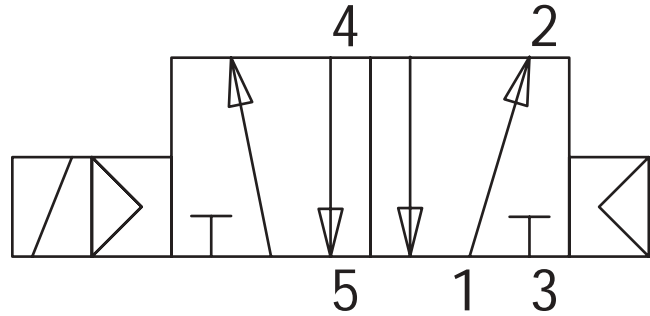
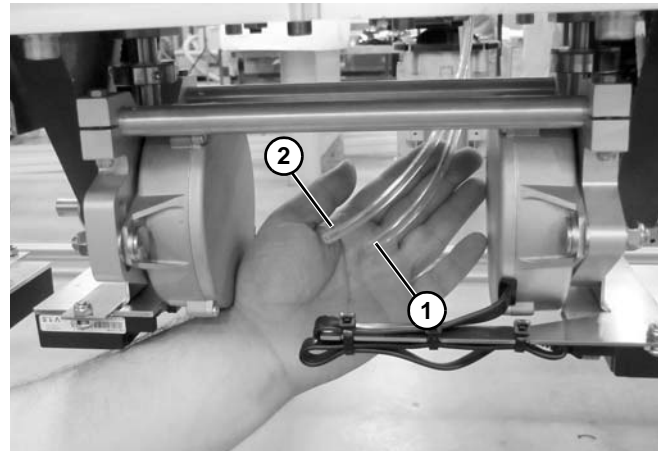

Figure 39
Figure 40
Dorner recommends using a 5 port, 2 way, solenoid valve (Figure 39) to operate unit.
1. Connect port 4 (Figure 39) of the 5 port, 2 way valve to the lower port (Figure 40, item 1) on the lift. Dorner fittings accept 1/4" outside diameter tubing standard.
2. Connect port 2 (Figure 39) of the 5 port, 2 way valve to the top port (Figure 40, item 2) on the lift. Dorner fittings accept 1/4" outside diameter tubing standard.